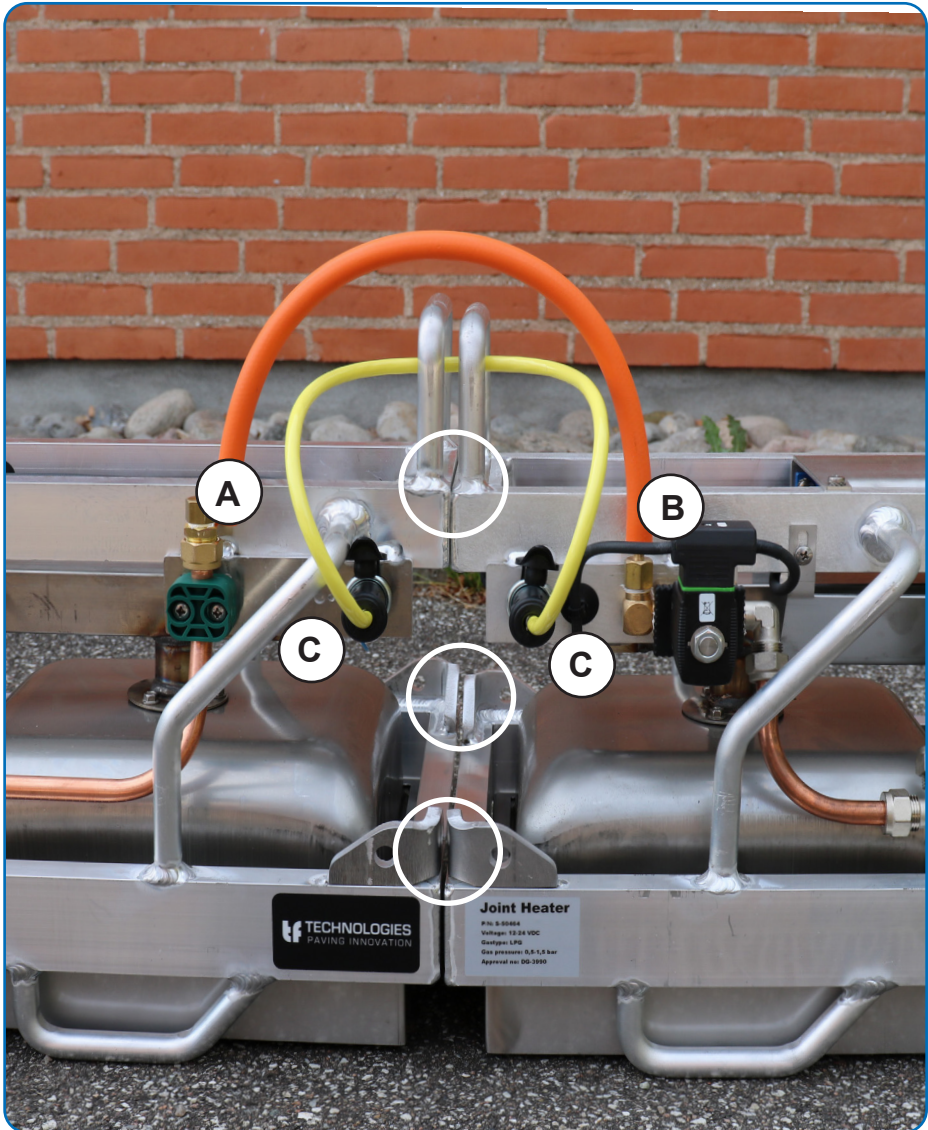

Fig. 6 - Joint Heater Udgrading, Connection of 6 burner and 3 burner version for a 9 burner Joint Heater
- 1** Locate the pipe stopper on the gaspipe opposite to the gas inlet on the main Joint Heater. Replace the stopper with the gas flange from the connector kit (figure 6, A). Make sure the connection is tight and without leakage
- 2** Align the Joint Heater and the extension as shown on figure 6 and bolt them together with the M8x30/70 screws at the positions marked with white circles on the figure
- 3** Connect the two gas flanges (figure 6, A and B) with the gas hose and tighten with the quick release hose clamps. Make sure the connection is tight and without leakage
- 4** Connect the power cable to the two sockets on the Joint Heater and its extension and strip the cable to the gas hose (figure 6, C)